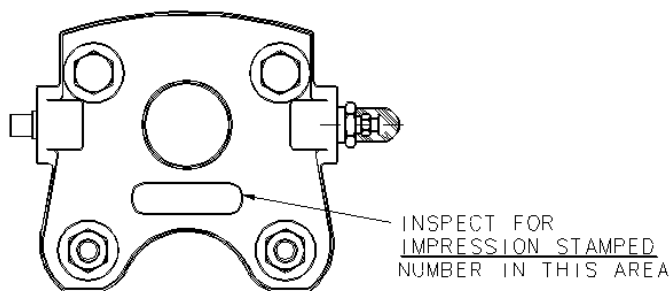

FIGURE 1 – INSPECTION OF BRAKE CYLINDER HOUSING
- 2) If a manufacturing date from 8/99 to 11/99 is observed, further inspect the brake assembly cylinder as shown in Figure 1 for evidence of an **impression stamped** number in the area reserved for the casting heat lot number.
Note: This process may be facilitated by reviewing the aircraft maintenance records for all type certificated and kit aircraft using the products referenced above. If brake products have been purchased and installed on the aircraft between 08/99 and 11/99 then it may be possible that an affected part was involved. If so, remove any fairings in accordance with the airframe manufacture's maintenance instructions to gain access to the brake assembly and inspect for the MFG DATE (see instruction A2 above and Figure 1 below).
- 4) If a manufacturing date between 8/99 to 11/99 is observed, further inspect the brake assembly cylinder as shown in Figure 1 for evidence of an **impression stamped** number in the area reserved for the casting heat lot number.